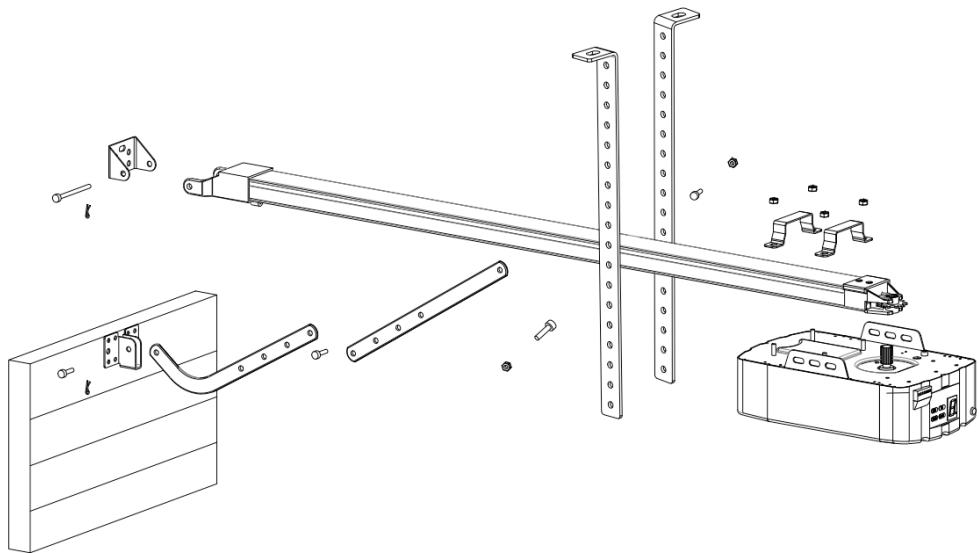

Figure 11
ÉTAPE 3 (Fig.11)
ÉTAPE 4 (Fig.11)
ÉTAPE 5 (Fig.11)
ÉTAPE 6 (Fig.11)